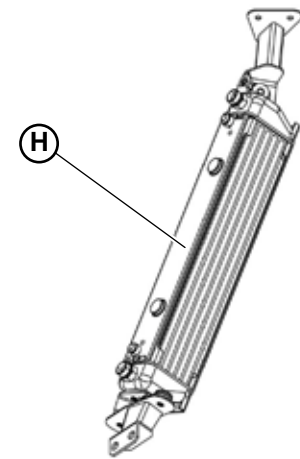

Fig.3
5. Remove the gearbox oil radiator (**H-Fig.3**).